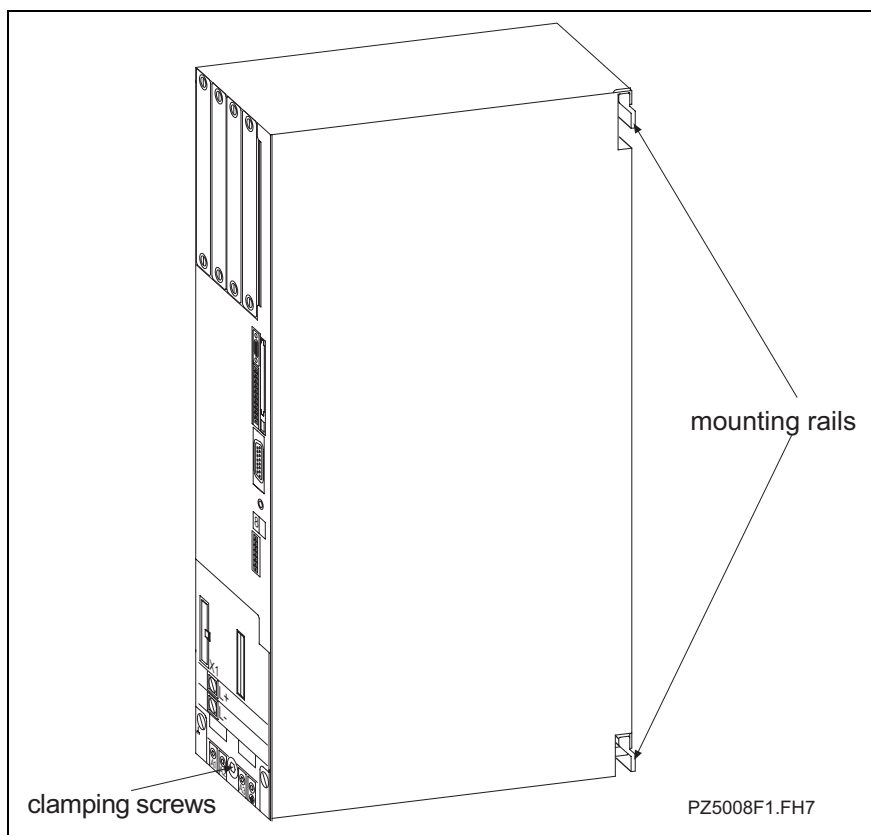

Fig. 11-3: Mounting the drive controller
3. Tighten clamping screw (see Fig. 11-3). 4 tightening torque Nm.